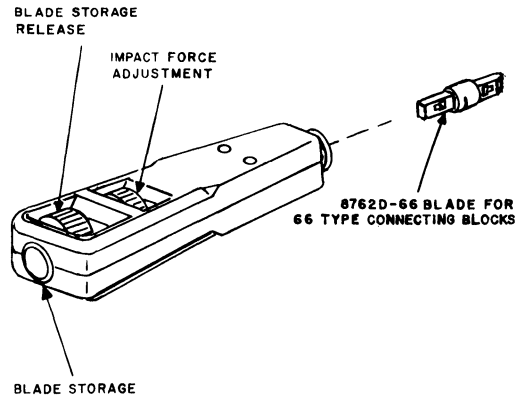
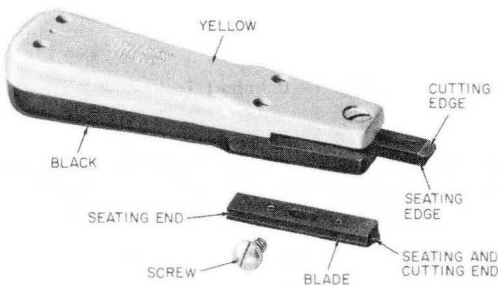
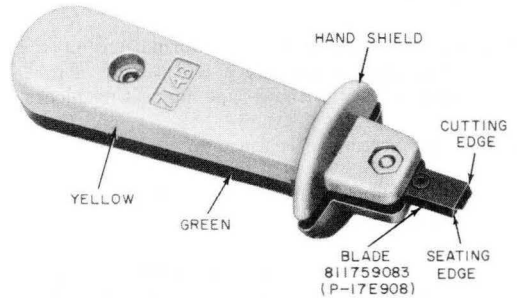

Fig. 1—D Impact Tool
Fig. 2—B Impact Tool (MD)
Fig. 3—714B Tool
2.01 The D impact tool (Fig. 1), the B impact tool (MD) (Fig. 2), and the 714B tool (Fig. 3) are used to make terminations on 66-type connecting blocks. The D impact tool is recommended for use in installations where numerous cutdowns are required. The 714B is intended for occasional or intermittent use.
2.02 The D impact tool (Fig. 1) consists of a handle with a switchable dual force impact mechanism, a blade release switch, and a cavity for storing a spare blade. The handle is designed to accept three different type blades, one of which is the 8762D-66 blade designed for use with the 66-type connecting block.
B. B Impact Tool (MD)
2.08 The B impact tool (Fig. 2) consists of a reversible steel blade attached by a single screw to a plastic handle. One end of the blade is used for seating and cutting conductors while the other end is used for seating only. A spring mechanism inside the handle controls the amount of force the installer must exert to terminate and cut wires.
2.11 The 714B (Fig. 3) is similar to the B impact tool except that it does not have an adjustable impact mechanism. It has a hand shield and is yellow and green instead of yellow and black.